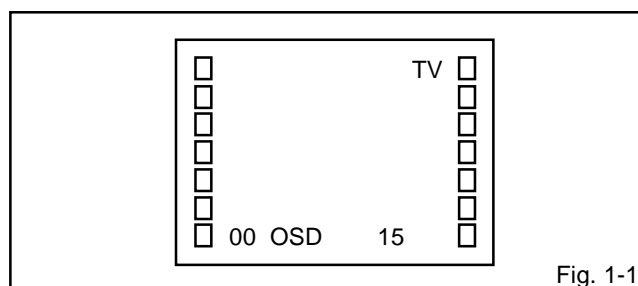

Fig. 1-1
1. In the condition of NO indication on the screen. Press the VOL. DOWN button on the set and the Channel button (**9**) on the remote control for more than 2 second to appear the adjustment mode on the screen as shown in **Fig. 1-1**.
4. Activate the adjustment mode display of **Fig. 1-1** and press the channel button (**02**) on the remote control to select "RF.AGC".
3. Activate the adjustment mode display of **Fig. 1-1** and press the channel button (**01**) on the remote control to select "CUT OFF".
4. Activate the adjustment mode display of **Fig. 1-1** and press the channel button (**10**) on the remote control to select "R.BIAS".
4. Activate the adjustment mode display of **Fig. 1-1** and press the channel button (**03**) on the remote control to select "V.VCO".